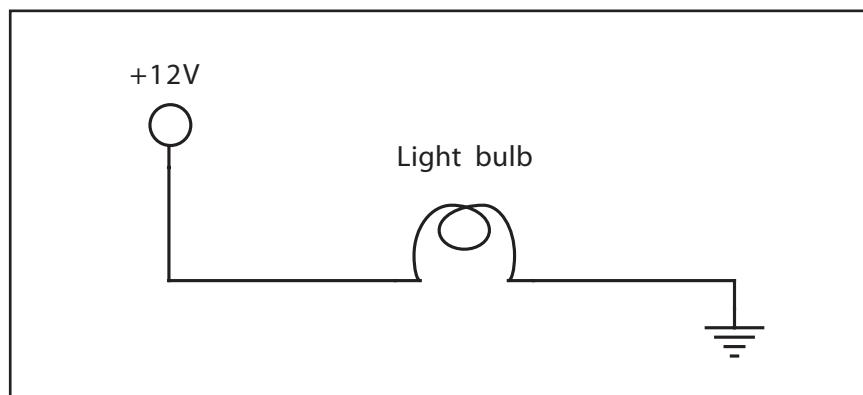

Figure 3.7 Light Bulb Circuit
Power (P) is voltage multiplied by current. It's measured in watts, which you're probably familiar with seeing on light bulbs. In fact, light bulbs serve as an excellent example. Consider a 20-watt and a 50-watt halogen bulb (Figure 3.7). Both require 12 volts. The difference is in the current, which we can calculate using $P=V\times I$.